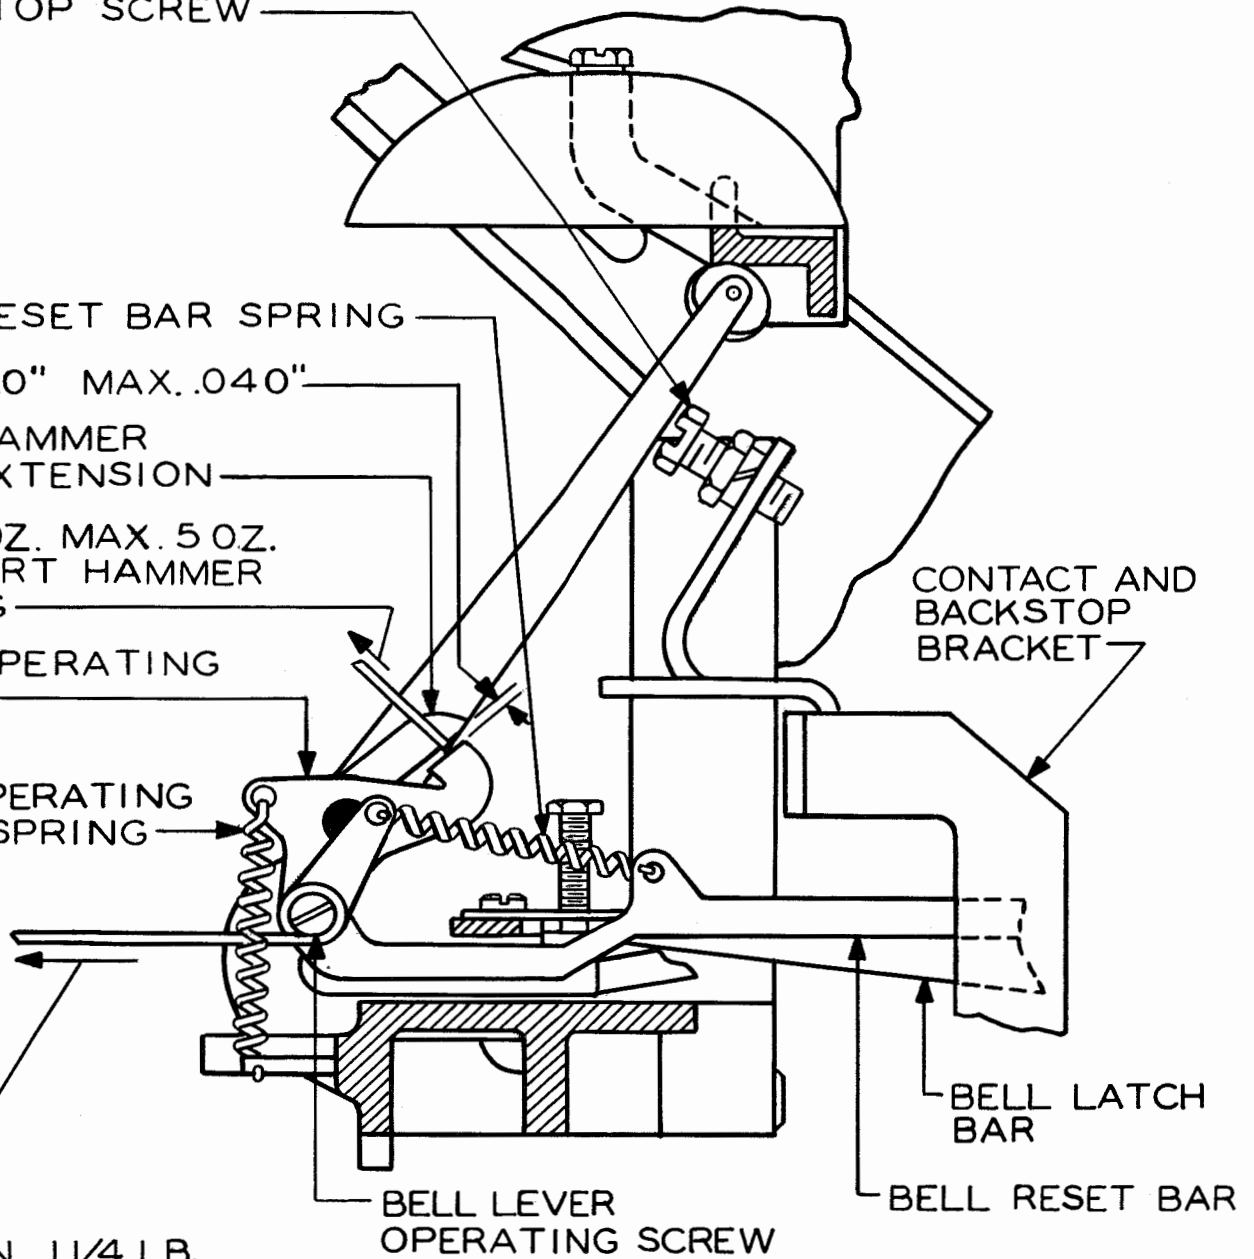

Figure 7
4.09 Signal Bell-hammer-arm Extension should clear bell operating-lever by minimum 0.020 inch, maximum 0.040 inch when bell latch-bar is in latched position. See Figure 7.